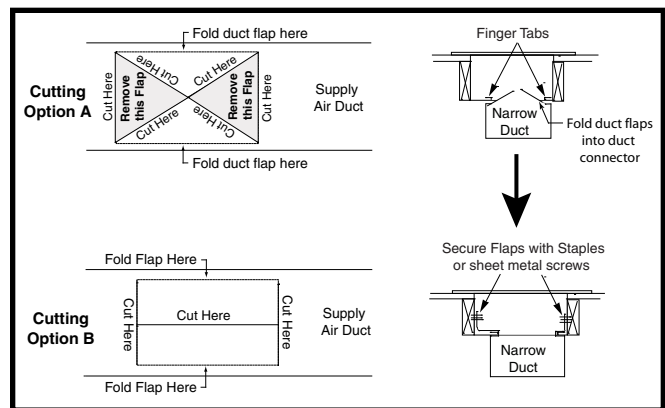

Figure 11. Narrow Air Ducts - Option 1
- Bend the connector tabs on the bottom of the duct connector upwards and as tight as possible against the supply air duct. See Figure 11 (page 15).
- Select Option A or Option B in Figure 11 and cut the top of the supply air duct. Remove metal flaps from the duct (shaded area) if Option A is selected.
- Form the duct flaps up against the side of the duct connector as tight as possible. See Figure 11.